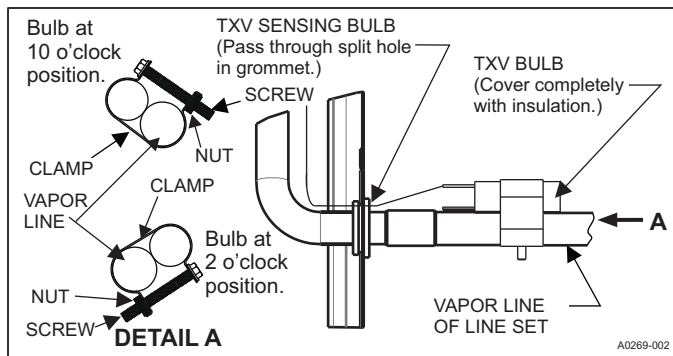

FIGURE 9: Proper Bulb Location
- b. If bulb installation is made on a vertical run, locate the bulb at least 16" (40.6 cm) from any bend, and on the tubing sides opposite the plane of the bend. Position the bulb with the tail of the bulb at the top, so that the bulb acts as a reservoir. See Figure 9 & 10.